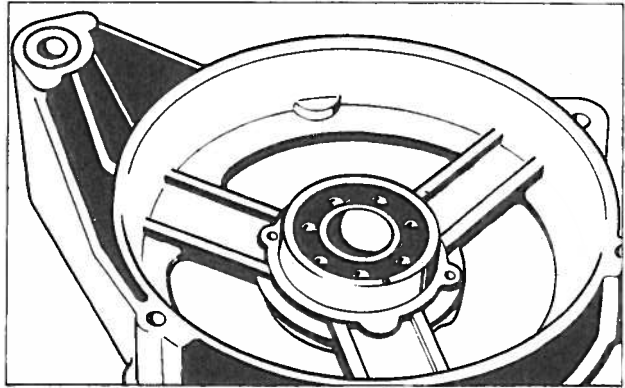

Fig. 62 Drive end frame bearing
16. Check the bearings in the drive end frame Fig. 62. If necessary replace them. Press the drive end frame onto the rotor, ensuring that dirt does not enter the bearings. Press the ball bearing onto the slip-ring end of the rotor.